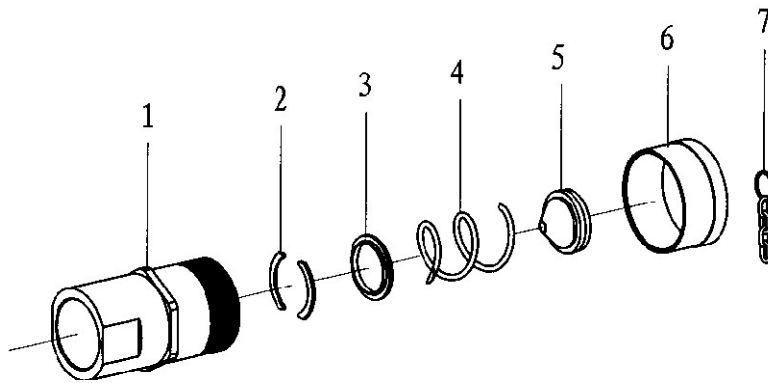

Fig 15
7.12. Quick exchange adaptor adaptor(2 1/8-12UN) (Fig15, Table14)